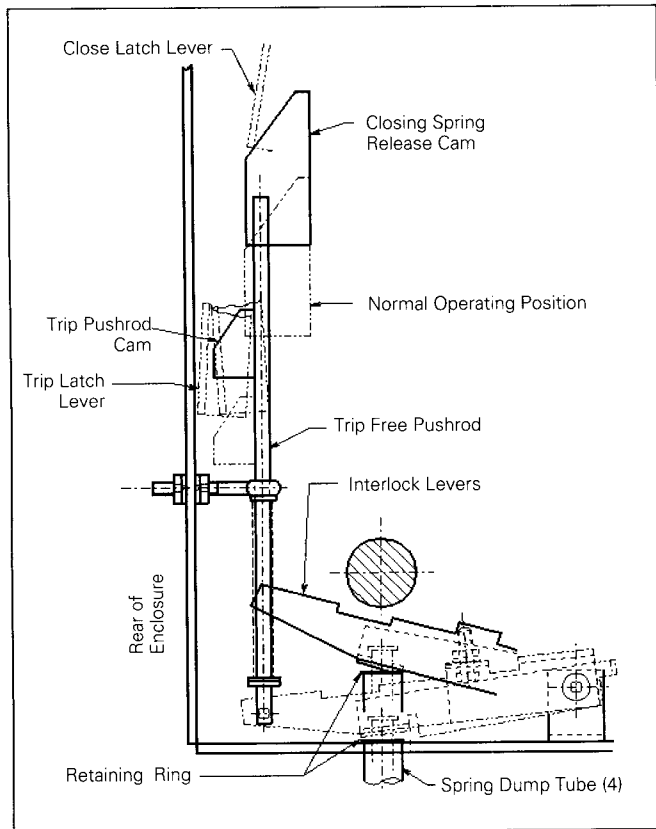

Figure 31. Closed Breaker Interlock Mechanisms in Stored Energy Mechanism
Figure 31 shows the operating mechanism detail components which establish a trip free condition as the tube (4) rises. The rising tube raises a lever attached to the base of the operating mechanism enclosure. This lever raises the trip free pushrod. The rising trip free pushrod elevates the trip free pushrod cam, which pushes the trip free coupling lever (62.8.3) (**Figure 15**) toward the rear of the enclosure.
Figure 31 shows the operating mechanism detail components which establish a spring dump condition as the tube rises. The rising tube raises a lever attached to the base of the operating mechanism enclosure. This lever raises the trip free pushrod, which elevates the closing spring release cam. The closing spring release cam moves the closing spring latch, which causes the closing springs to discharge. However, the trip free interlock is raised, so that the operating mechanism is held trip free (see trip free interlock discussion). Thus, the energy in the closing springs is released (spring dump), without movement of the jackshaft or the vacuum interrupter contacts.